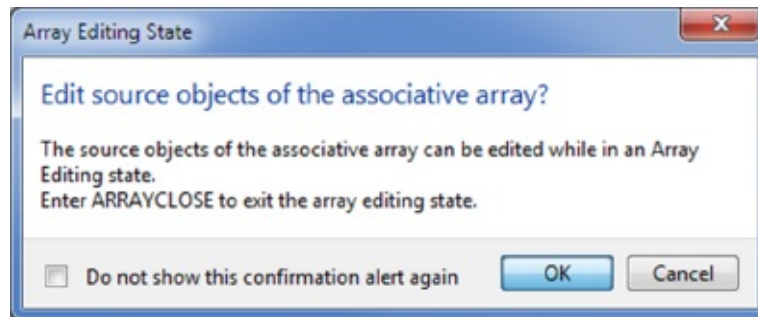

FIGURE 6.14 The Array Editing State message
2. Click the middle chair in the array. The Array Editing State message appears, informing you that you need to enter **ARRAYCLOSE** to exit the array editing state (see Figure 6.14).